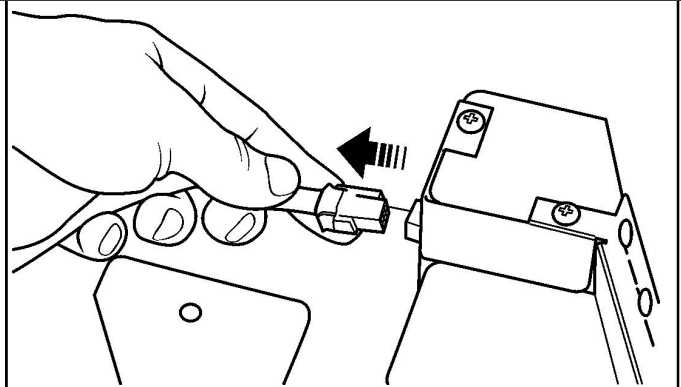

Figure 46. Removing the solenoid leads from the control box.
6. Disconnect the solenoid leads from the control box (See figure 46).